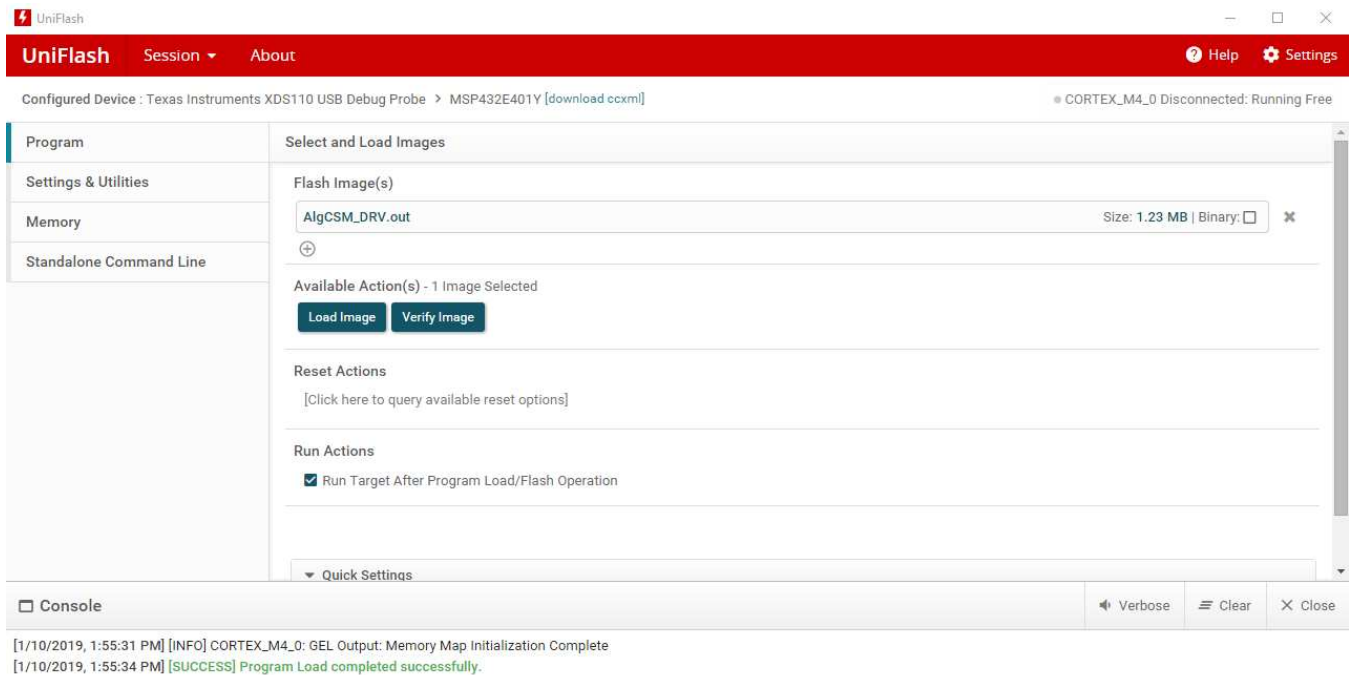

Figure 37. UniFlash Programming, Step 5
8. Click on **Load Image**. After the program loads into the LaunchPad, the *Program Load completed successfully* message appears in the Console, as shown in Figure 37